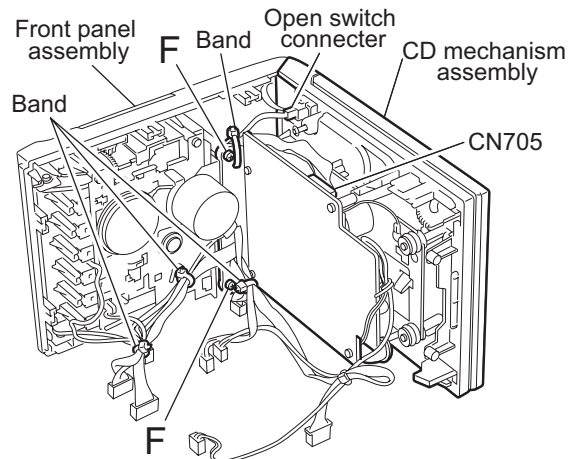

Fig.8
3.1.3 Removing the CD mechanism assembly and the Switch board (See Fig.8 ~ 10)